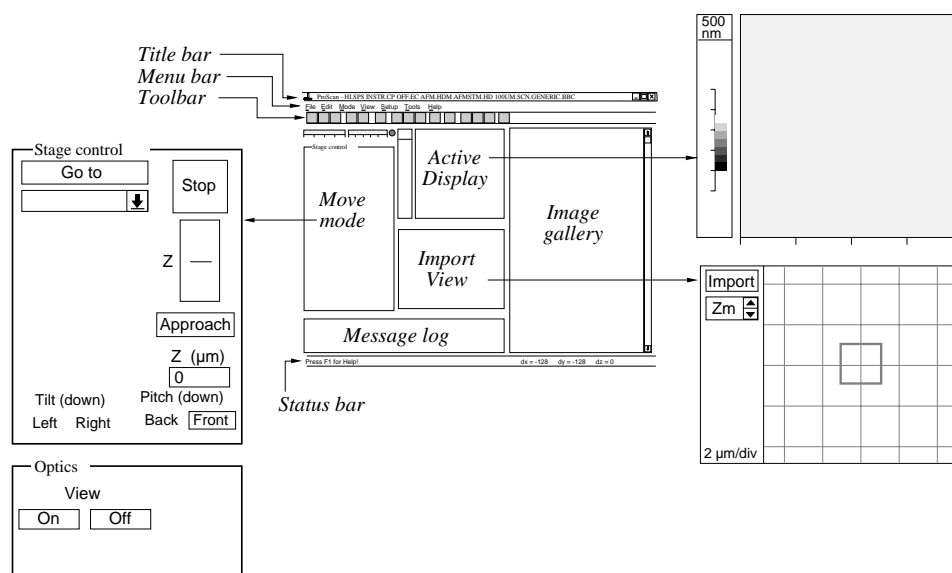

Figure 2-3. Sections of the ProScan Data Acquisition screen.
The different sections of the ProScan Data Acquisition screen are labeled in Figure 2-3.
1. When the ProScan program opens, the probe head is turned on. This means that the power to the probe head is turned on. Turn off the power to the probe head by deselecting the Head ON menu item of the Mode menu. Alternatively, you can turn the probe head off or on by clicking the Head ON icon, , of the Toolbar. The Menu bar and the Toolbar are indicated in Figure 2-3, above. Turning off the power to the probe head enables the Reset Stage menu item of the Setup menu.